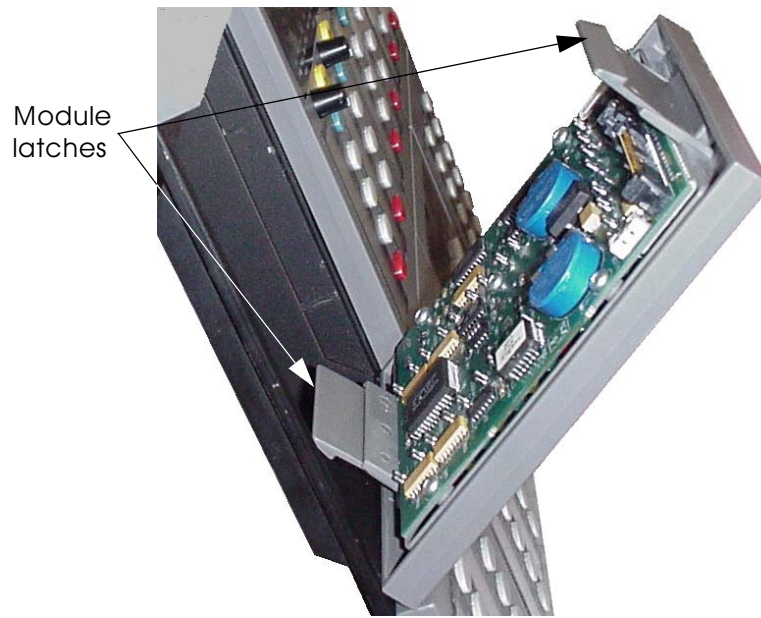

Figure 6-4: Module latches (Rackmount)
2. Press the two (2) module latches shown in Figure 6-4, while gently pushing the module out. Use your other hand to protect the module from damage (as from dropping it).